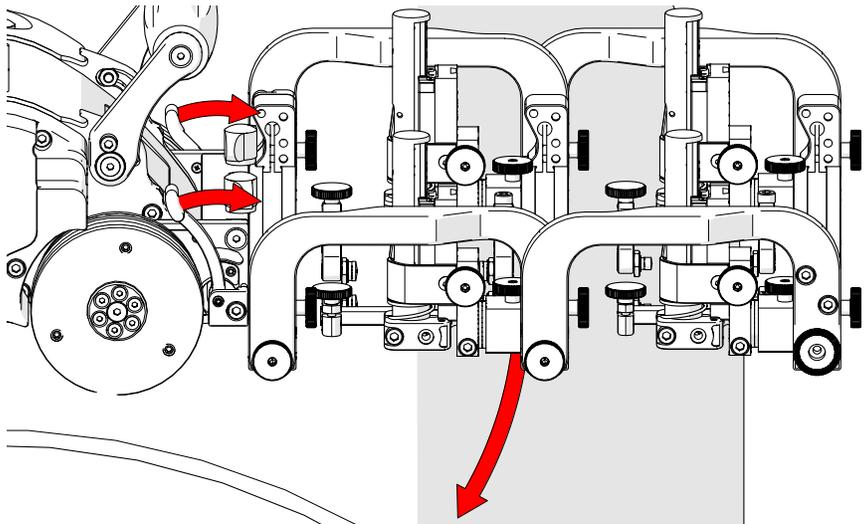
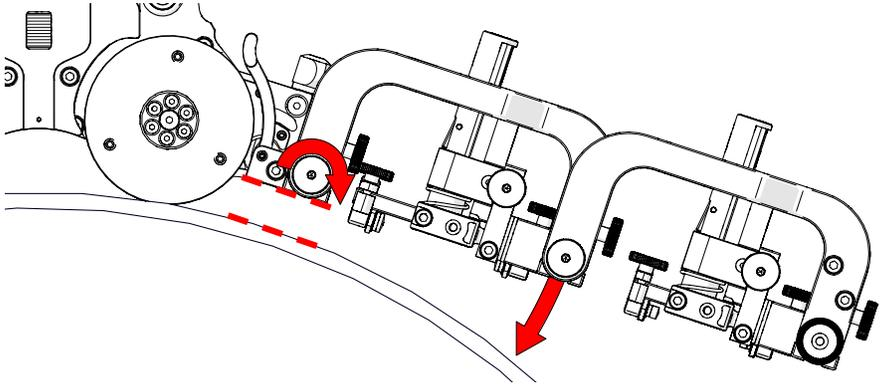

Fig. 179 - Align swivel mount with scan surface
Fig. 180 - Set rear rotational adjustment knob
3. Mount the probe holder frame to the crawler (*see Cable Retainer on page 51 for additional details*). When mounting the probe holder frame, ensure the attachment knobs (*Fig. 179*) are at the front (non crawler side).
4. Release the two swivel mount levers (Fig. 179) to position the swivel mount parallel to the scan surface (Fig. 180). When alignment with scan surface is achieved, lock the crawler swivel mount levers.